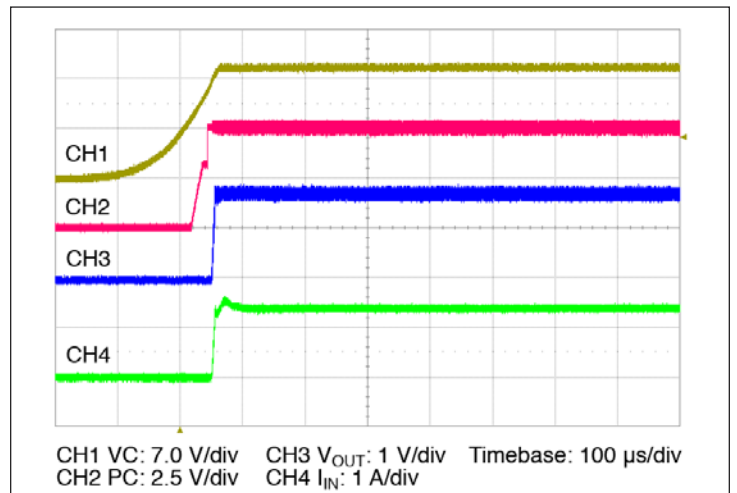

Figure 14 — Start up from application of VC; V_{IN} pre-applied $C_{OUT} = 0\ \mu\text{F}$
- **Stand Alone Operation (VC applied after V_{IN}):** In this case the module output will begin to rise upon the application of the VC voltage (See Figure 14). The Adaptive Soft Start circuit (See Section 10) may vary the output rate of rise in order to limit the inrush current to its maximum level. When starting into high capacitance, or a short, the output current will be limited for a maximum of 900 µsec. After this period, the adaptive soft start circuit will time out and the module may shut down. No restart will be attempted until VC is re-applied, or PC is toggled. The maximum output capacitance is limited to 1500 µF in this mode of operation to ensure a successful start.